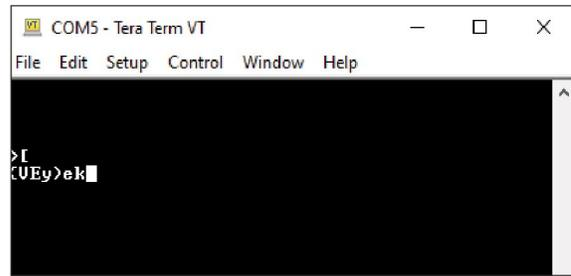

Figure 29. View sensor information
- Type in the COM window ([Figure 29) to enter the direct communications mode on the PROCHECK when connected to the ATMOS 41.
When the sensor address is 0, the returned DDI string will look like a random string of characters (e.g., {UEy)ek) after entering the direct communications mode (Figure 29).